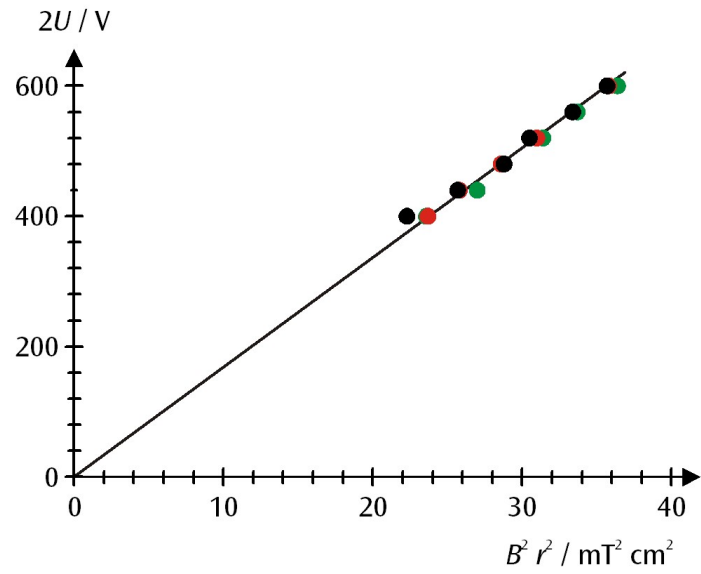

Fig. 3 Graph of  $r^2 B^2$  against  $2U$  for values as measured (black:  $r = 5 \text{ cm}$ , red:  $r = 4 \text{ cm}$ , green:  $r = 3 \text{ cm}$ )
- For further evaluation, plot the measured values in a graph of  $r^2 B^2$  against  $2U$  (see Fig. 3).